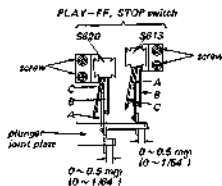

Fig. 3-22. PLAY-FF, STOP switch (S613, 620) position adjustment
1. Place the unit in the STOP mode. See Fig. 3-22. Make sure that the distance between the plunger joint plate and the leaf A of the leaf switch is 0 to 0.5 mm (1/64"), and also that the leaves A and B are in contact with each other completely. If necessary, adjust the switch position by loosening the screws.